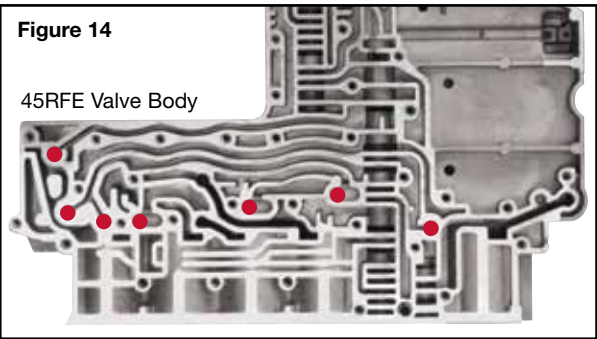

Figure 14
- a. Remove existing checkballs from the valve body (**Figure 14**).